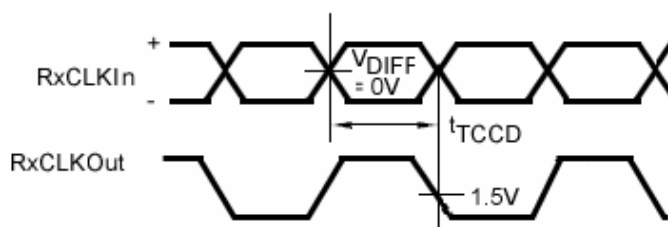

Figure 14. Receiver Clock-In to Clock-Out Delay (Falling-Edge Strobe)
| $t_{RCCD}$  | Receiver Clock Input to Clock Output Delay (19) | Figure 14$T_A=25^\circ\text{C}$ and$V_{CC}=3.3\text{v}$     | 3.5  | 5.0  | 7.5  | ns            |